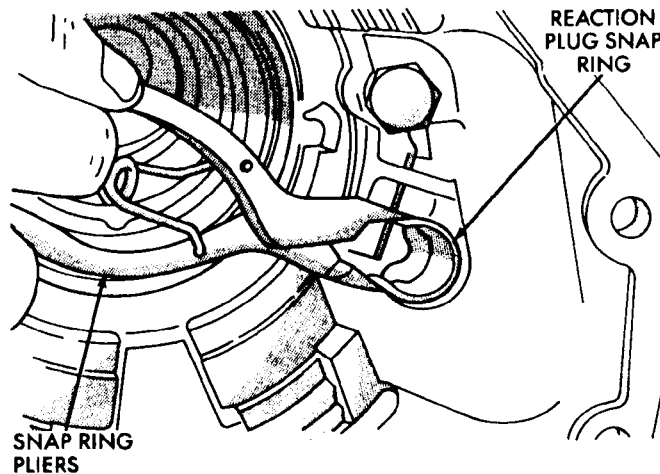

Fig. 70 Reaction Plug And Snap Ring Installation
(14) Install reaction plug snap ring (Fig. 70). Compress snap ring only enough for installation; do not distort it.